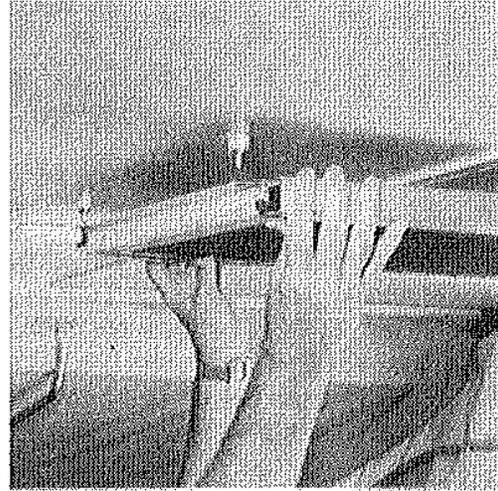

Fig. 6
10. Unlatch twist locks holding door to roof. Swing down the double hinged, self-storing screen door. Drop channel of lower edge of screen door over entrance door, guiding locating pins into door jamb extrusion. Fig. 6. If you cannot get door to align properly, check jacks to make sure they are adjusted correctly and check camper for levelness.